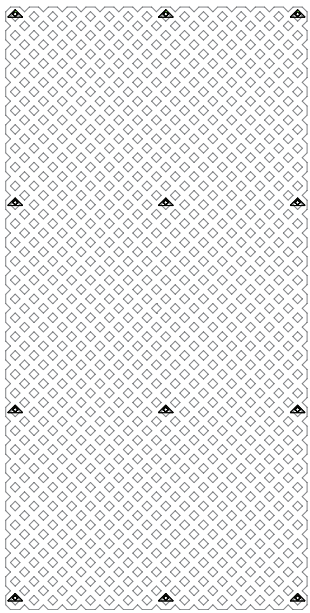
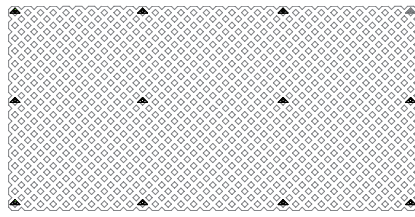

Fig. 1
Fig. 2
The number of Diamond Clips needed to install the lattice depends on the size and shape of the sheet and the shape of the structure to which you are attaching the lattice. A standard vertical installation of a full sheet 2410x1205mm requires one pack of 12 Diamond Clips fitted in 4 rows of 3 clips (Fig. 1). If installing the lattice horizontally, fit the 12 Diamond Clips in 3 rows of 4 (Fig. 2). Make sure that the supporting structure is flat, solid and able to support the additional load.
Before installing the lattice, ensure that it will have at least 12mm clearance all the way around the sheet; this provides room for expansion of the lattice (see Figs. 1 & 2). Trim the sheet with a wood saw or jig saw if necessary. We do not recommend using a circular saw due to the risk of cracking the lattice.
2. Get a helper to hold the lattice in its intended position against the supporting structure or support it on blocks, then place the first Diamond Clip within the lattice opening in the middle of the sheet near the top (Figs. 1 & 2).